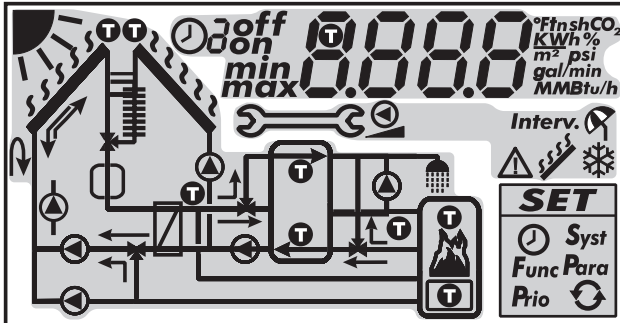

Fig. 8: Overview of the display areas (all elements visible)
The following tables describe the symbols used in the system graphics (① in Fig. 8).
The settings menu (② in Fig. 8) contains the following entries:
The following table describes the pictograms used for functions (③ in Fig. 8).
The display of the operational and setting values (④ in Fig. 8) consists of the following elements:
①	Symbol for time control of functions. This symbol is displayed when: <ul style="list-style-type: none"> <li>• a time restriction / control has been set,</li> <li>• the status of time restriction/control is displayed,</li> <li>• the time restriction blocks a temperature control (symbol flashes).</li> </ul>
②	Number of the time window that is currently being set/displayed or within which the current time lies. The time control of a function consists of 1 to 3 configurable time windows. Example: Time window 1: 06:00 – 08:00 Time window 2: 11:00 – 12:30 Time window 3: 17:00 – 19:00
③	Additional information: on, off: switching state/condition on , off max, min: maximum value, minimum value Σ: summed operational value since first commissioning, cannot be reset Δ: summed operational value since last reset to 0
④	Symbol is displayed when a temperature sensor is selected when setting a function.
⑤	Display of: <ul style="list-style-type: none"> <li>• Measurements</li> <li>• Settings</li> <li>• Error codes</li> <li>• Additional information, e.g. software version</li> </ul>
⑥	Physical unit of the value displayed in ⑤: °F, F, psi, gal/min, MBtu, MBtu/h, MMBtu, %, tn sh CO 2 Note The physical units are only displayed as appropriate.